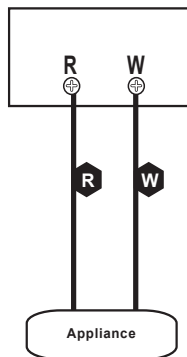

Figure 27.2
5. Connect your thermostat wire to the W and R terminals (**Figure 27.2**).